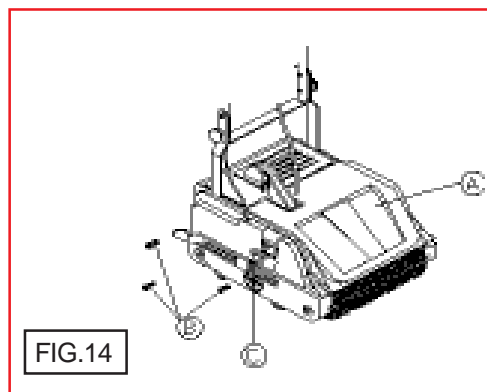

FIG.14
13.3 SKIFTING AV SIKRING (FIG. 14)